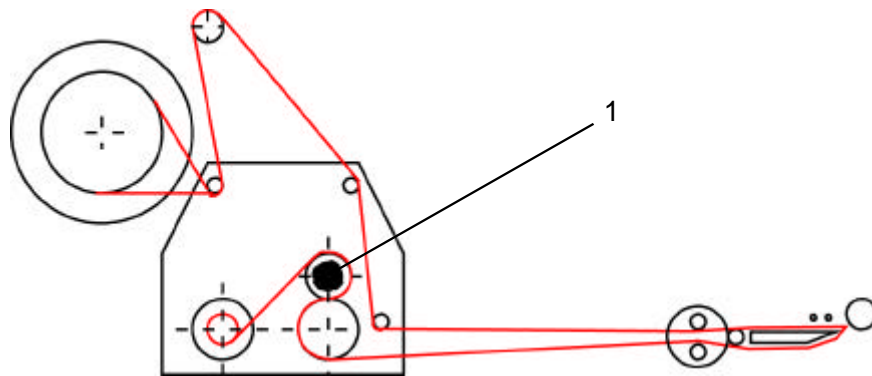

Figure 3: Threading
Thread the labelweb as shown in figure 3 up to the dispensing edge and draw it out by approx. 1 m. Detach the labels from the paperweb at the drawn-out web. Then open the pinchroller by turning the knob (1), place the paperweb over the dispensing edge and finish threading the paperweb as shown in figure 3. Close the pinchroller. Adjust the side guides of the paperweb well, leaving 0.5 mm free space to the paperweb's edge.